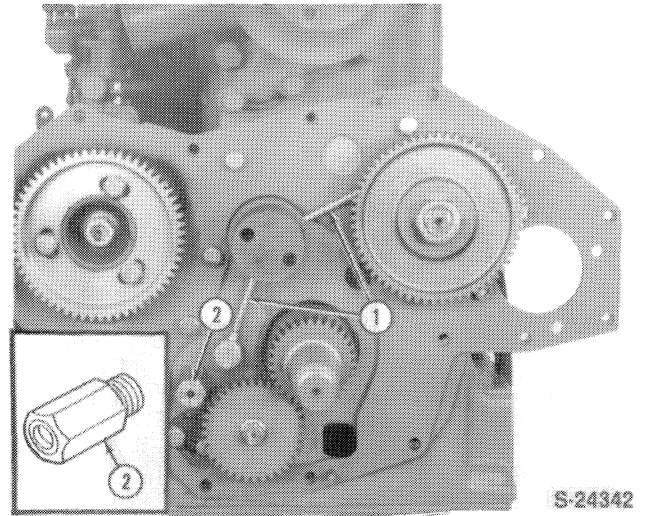

Figure 11
The remaining oil flow is directed through the external tube (1), Figure 11, at the front of the block to a drilled bolt located above the camshaft and extends into an oil gallery that extends the length of the block on the